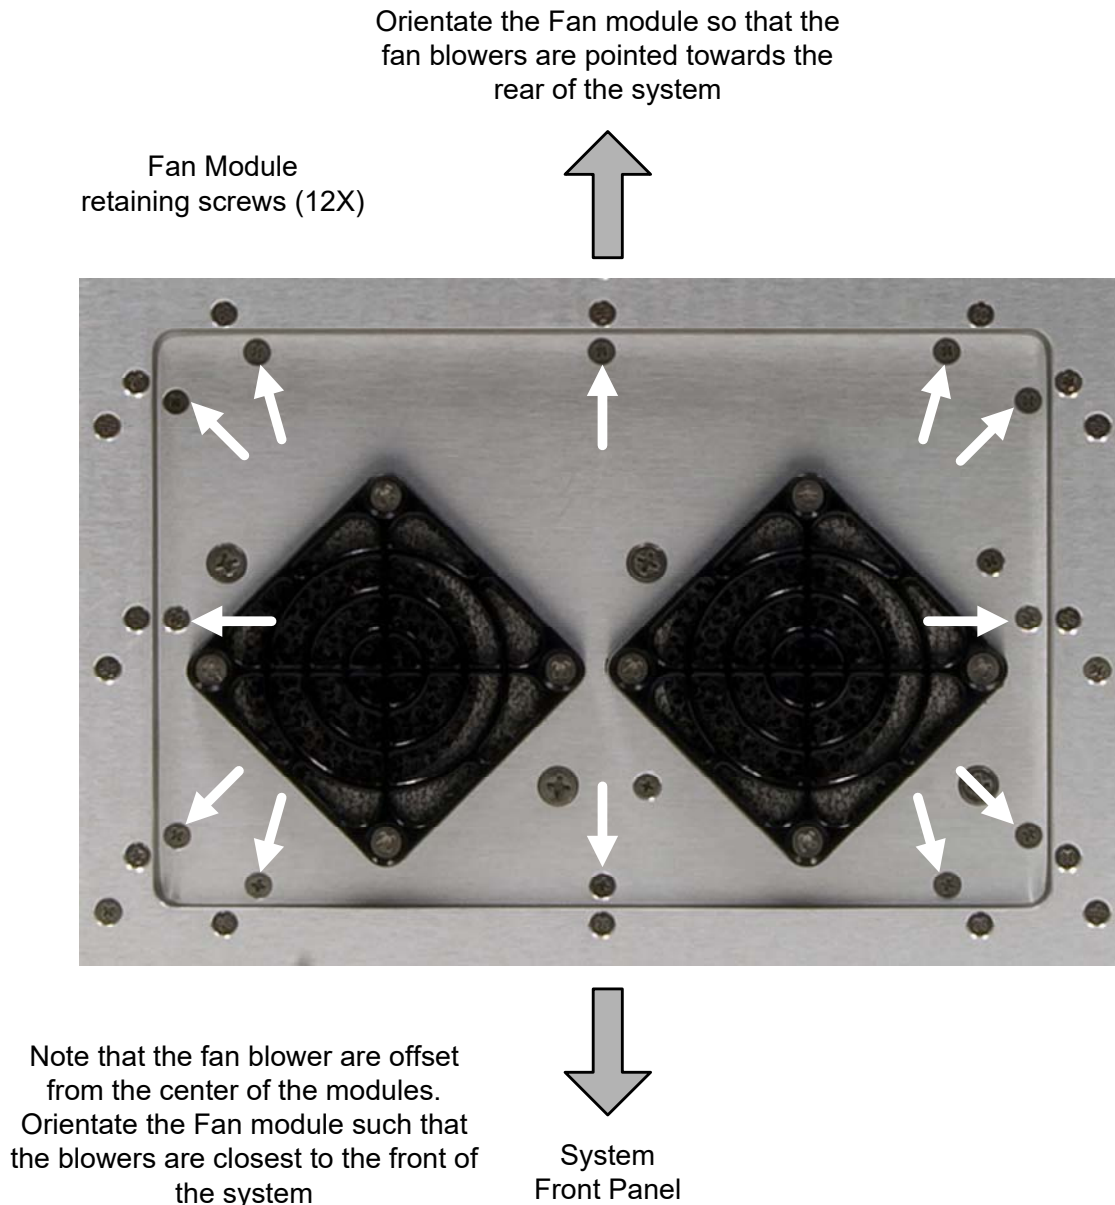

Figure 9-4 Fan Module Orientation and Retaining Screw Locations
- Remove the 12 Fan module screws (refer to **Figure 9-4** for retaining screw locations) and remove the Fan module from the CommSync II-D. Note that as the Fan module is removed from its location, a ribbon cable assembly from within the CommSync II-D will extend out of the Fan module slot opening and will still be attached to the Fan module's connector.
*When removing the Fan module retaining screws care must be taken not remove any of the module assembly screws. Only remove the screws pointed to with white arrows in **Figure 9-4**. **Removal of the incorrect screws could cause the Fan module assembly to fall apart within the CommSync II-D!***
- Insert the module into Fan module slot opening. Ensure that the Fan module's fan blower assemblies are directed away from the front of the unit and toward back of the unit refer to **Figure 9-4** for Fan module orientation.
- Reinstall the 12 Fan module retaining screws (4-40 X 1/4 stainless steel screws) and torque these screws to about 5 inch pounds (7 inch pounds maximum). Refer to **Figure 9-4** for retaining screw locations..